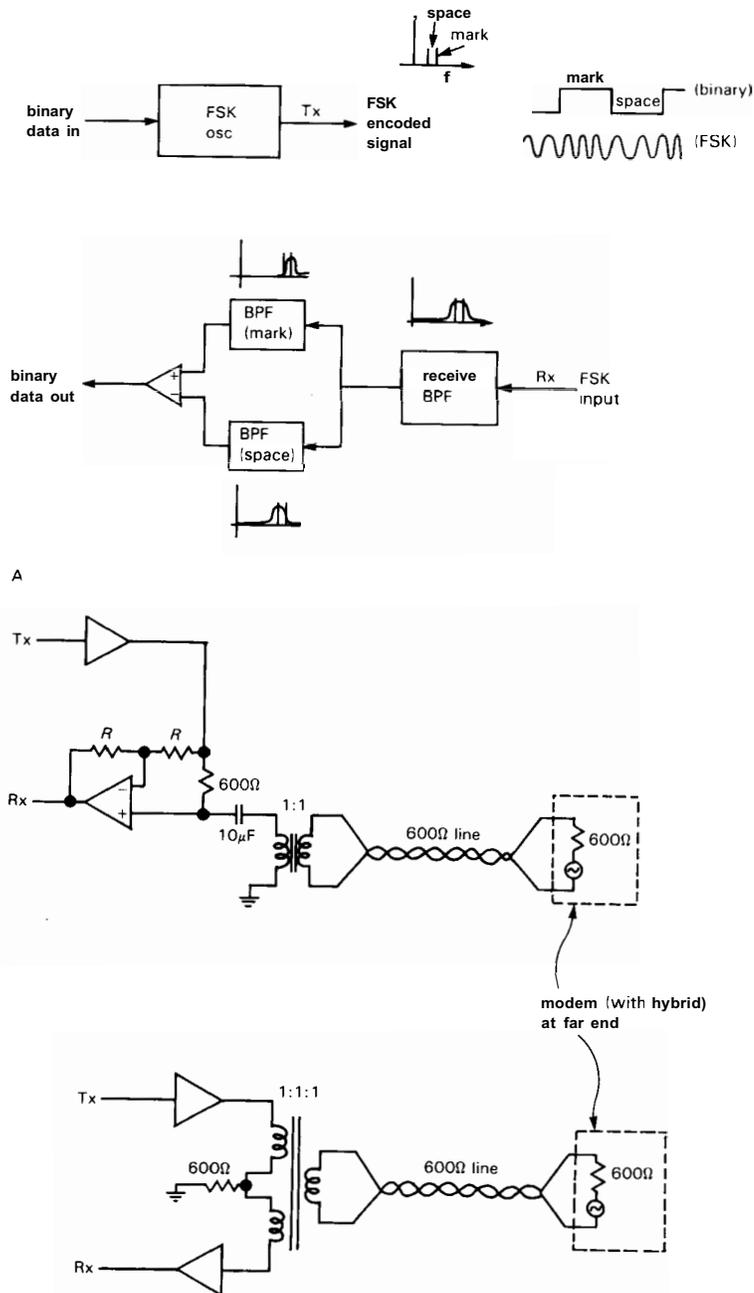

Figure 10.19. A. FSK modem.
**Figure out how the hybrid circuits in Figure 10.19 work. Then impress your friends with your new knowledge.**